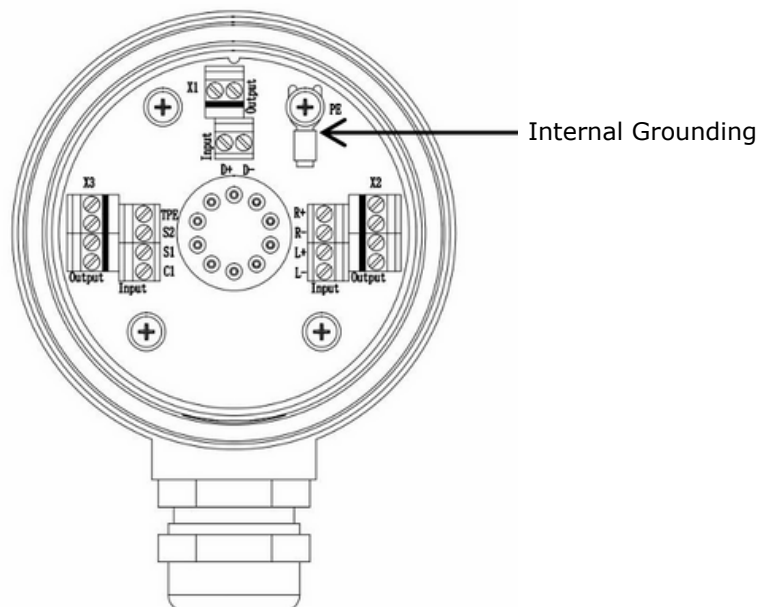

Figure 4
Internal grounding and shield routing inside the junction box are highlighted in Figure 4
- Inside the sensor junction box, the terminal board has a dedicated internal grounding point, where the shield of the sensor cable is connected; see Figure 4.